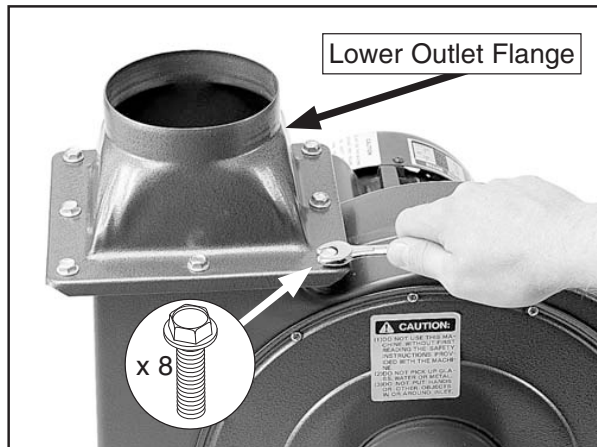

Figure 28. Mounting outlet to collector body.
3. Insert the rubber gasket between the collector and lower outlet flange, and secure the flange with (8) $\frac{5}{16}$ "-18 x $\frac{1}{2}$ " flange bolts, as shown in **Figure 28**.